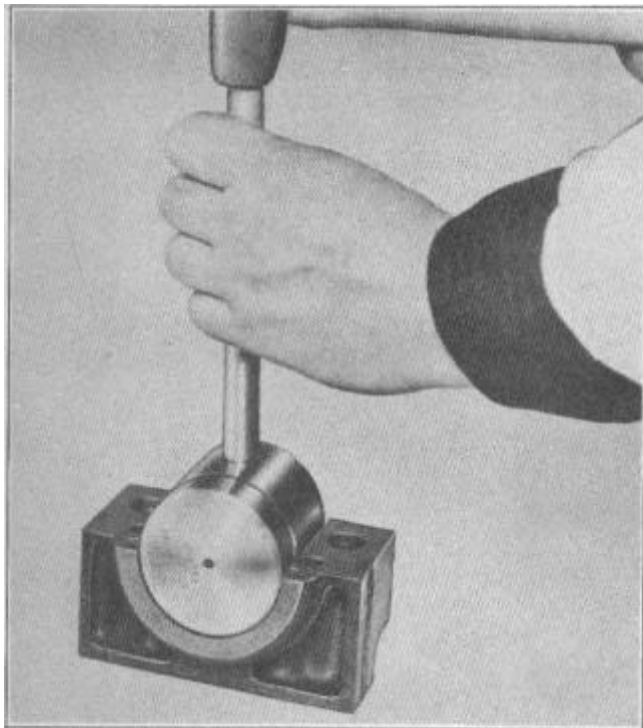

FIGURE 17
1. Crowd the seal material into the outer groove of the bearing cap by hand and with Main Bearing Oil Seal Installer J-2779, drive the seal tightly into the groove by tapping handle of tool with a bronze hammer, Figure 17.